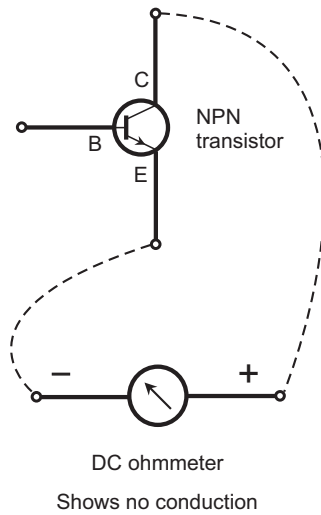

FIGURE 7-22 Electrons should not flow from the emitter to the collector.
5. Electrons should not flow from the emitter to the collector (Fig. 7-22).